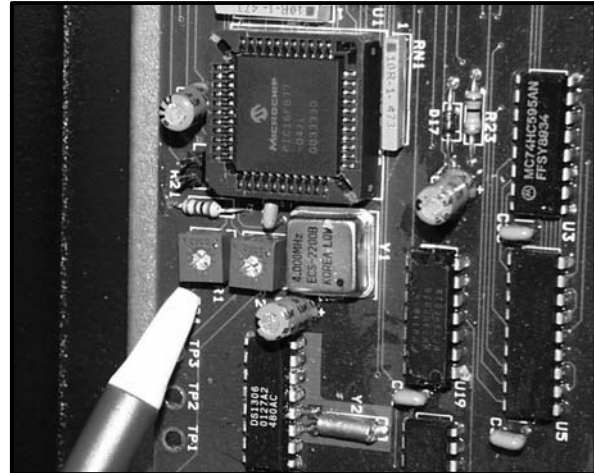

Figure 30
3. Turn the potentiometer to the required setting. See Figure 30.